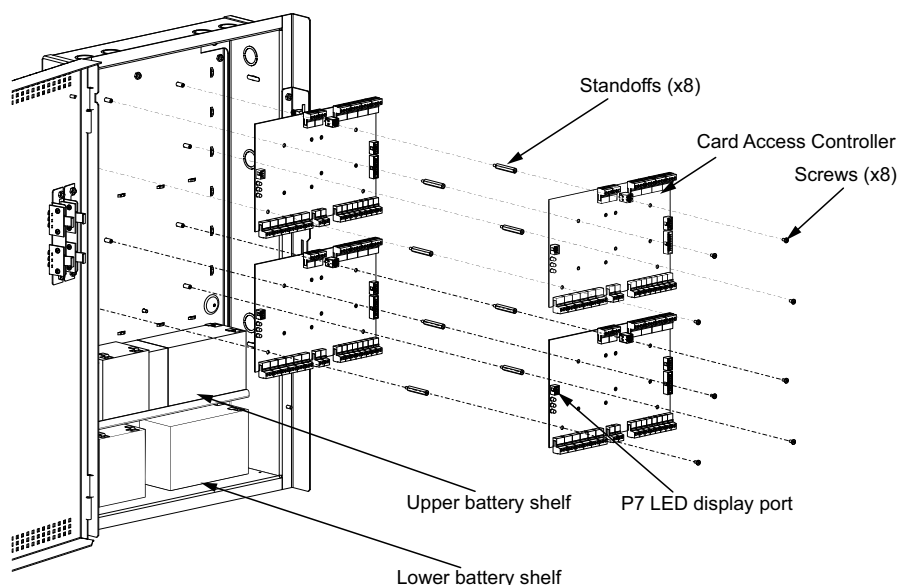

Figure 2 Mounting controller boards in TX3-CX-4-A-256, TX3-CX-4K-A-256
4. If you are mounting the new controller board on top of an existing controller board, use the 4 included standoffs as shown in Figure 2.